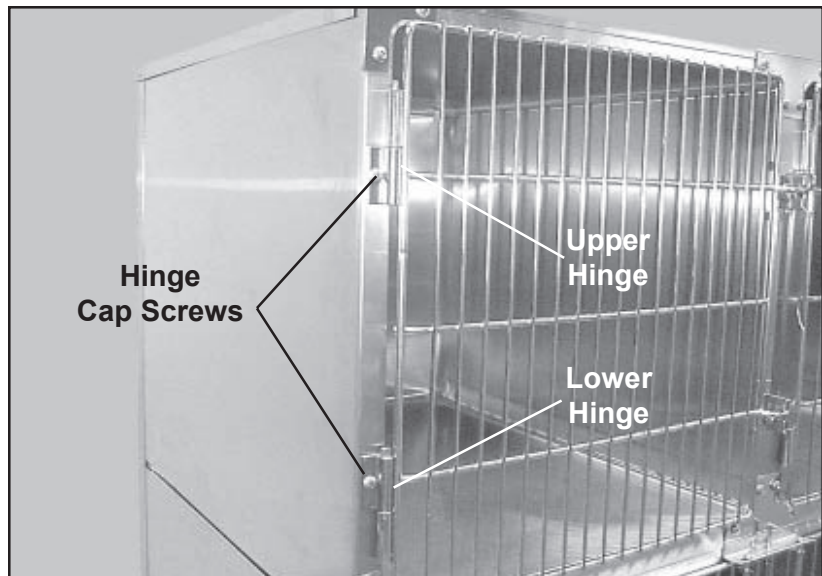

Figure 65. Adjusting the Door Hinges
1. Loosen the cap screws on all the door hinges (Figure 65).